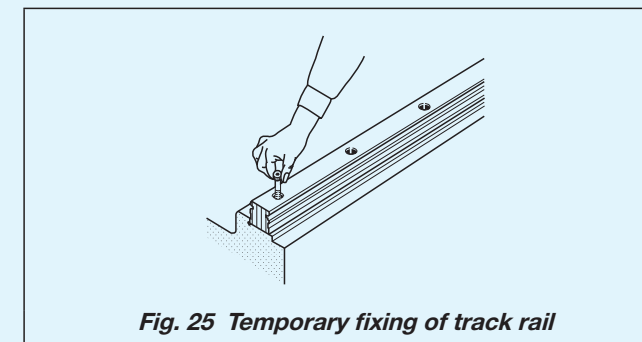

Fig. 25 Temporary fixing of track rail
- Align and temporarily fix them with reference mounting surface of each Linear Way track rail. (See Fig. 25)